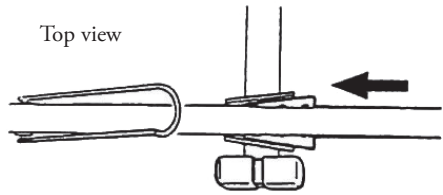

Fig. 8
- Slide the tapered plates on the crossarms into the tapered sockets on the cradle. (Fig 8)